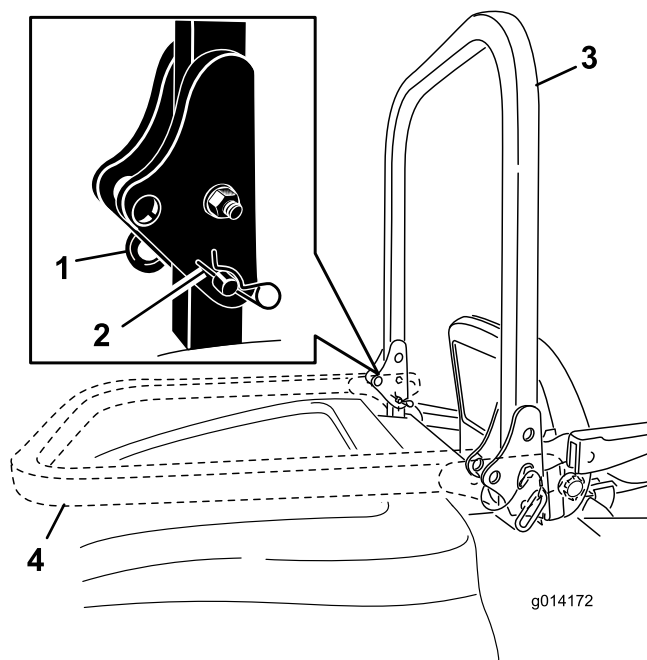

Figure 12
1. To lower the roll bar, remove the hairpin cotters, push the roll bar forward against the springs, and remove the two pins (Figure 12).
2. Lower the roll bar to the down position (Figure 12).
3. Install the two pins and secure them with the hairpin cotter pins (Figure 12).
4. To raise the roll bar, remove the hairpin cotter pins and remove the two pins (Figure 12).
5. Raise the roll bar to the upright position and install the two pins and secure them with the hairpin cotter pins (Figure 12).